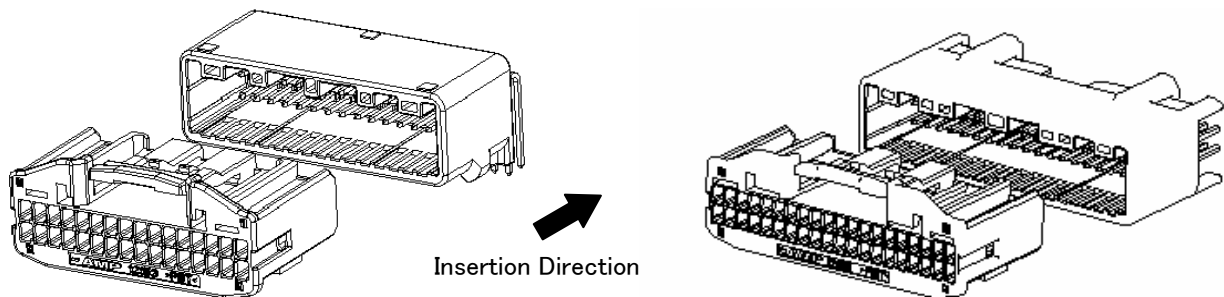

Fig.15
- (1) Check to make sure that the contact is inserted into the housing in proper condition, the wire is taped up from proper position, and the retainer is in final lock condition. If the retainer is in pre-assembled condition, it must be changed to be in final lock condition. See para.6.
- (2) And then check the contact and the housing into the male housing for defects, deformation, discoloration, damage, rust, crack, deficit, etc.
- (3) Insert the proper female housing into the male housing straight with same direction as shown in Fig.15. The operation is finished when you hear the click sound and can not insert further. When you can not insert the housing, do not insert by force, and check the items in (1), (2).